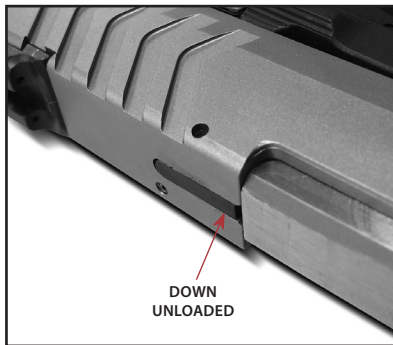
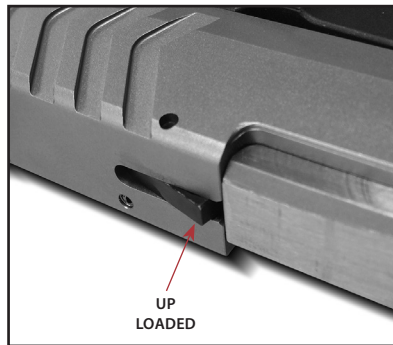

Figure 15-1
Figure 15-2
Your 911 firearm has a loaded chamber indicator (See Figure 15-1). The indicator allows you to observe whether a cartridge is in the chamber. When a cartridge is in the chamber the indicator raises above the barrel (See Figure 15-2). **When the loaded chamber indicator is up, the firearm is loaded and is ready to fire.**
6. The loaded chamber indicator will be in the up position (See Figure 15-2).
NOTE: An alternative method to load the cartridge into the chamber is to forcefully pull the slide completely to the rear and in one motion quickly release it, allowing the slide to slam forward unimpeded under its own force. (Do not hold the slide as it moves forward. “Riding the slide” in this manner can cause cartridge to jam or misfeed.) The loaded chamber indicator will be in the up position (See Figure 15-2).